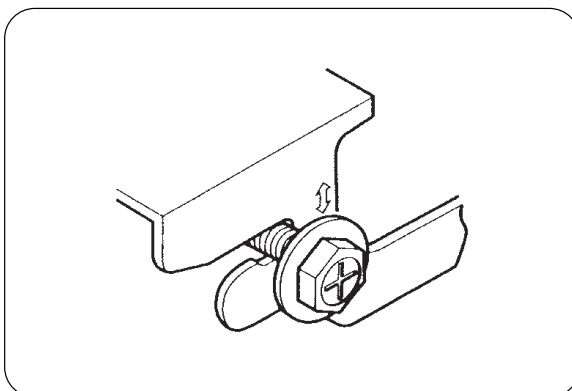

Fig.7
(7) Lift the unit and slide forward unit the dent. (Refer it Fig.7)